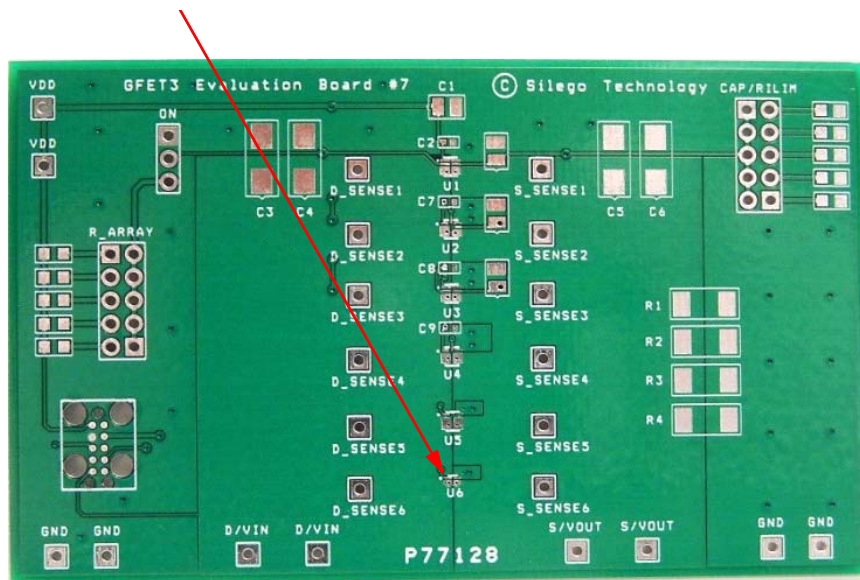

Figure 1. SLG59M1440V Evaluation Board.
1. Since the D and S pins dissipate most of the heat generated during high-load current operation, it is highly recommended to make power traces as short, direct, and wide as possible. A good practice is to make power traces with an absolute minimum width of 15 mils (0.381 mm) per Ampere. A representative layout, shown in Figure 1, illustrates proper techniques for heat to transfer as efficiently as possible out of the device;
A GFET3 Evaluation Board for SLG59M1440V is designed according to the statements above and is illustrated on Figure 1. Please note that evaluation board has D_Sense and S_Sense pads. They cannot carry high currents and dedicated only for $R_{DS(ON)}$ evaluation.